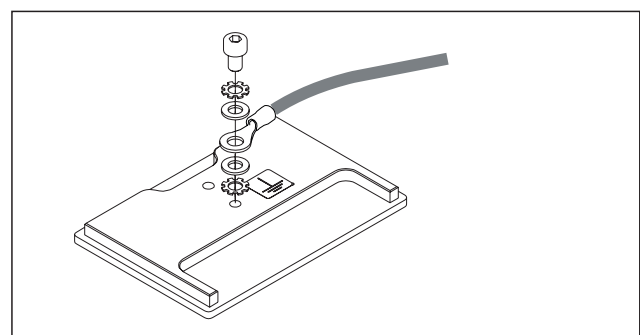

Fig. 11 Grounding the cover
13. For frame-height, earth the cover (see Fig. 11) and connect the cover's earthing point to the corresponding earthing terminal in the base profile.